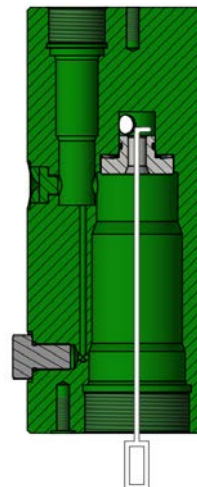

Figure 11 - Seat Removal
- 12.3 Carefully remove the seat (see Figure 11). – *Brass hooked probe*
- 12.7 Insert the seat into the body by slowly pushing with a tool which will not chip the ceramic seat. Orient the seat with smallest diameter end into the body (see Figure 11).
- 13.1 If needed, ensure that the seat is placed in the valve per Figure 11.